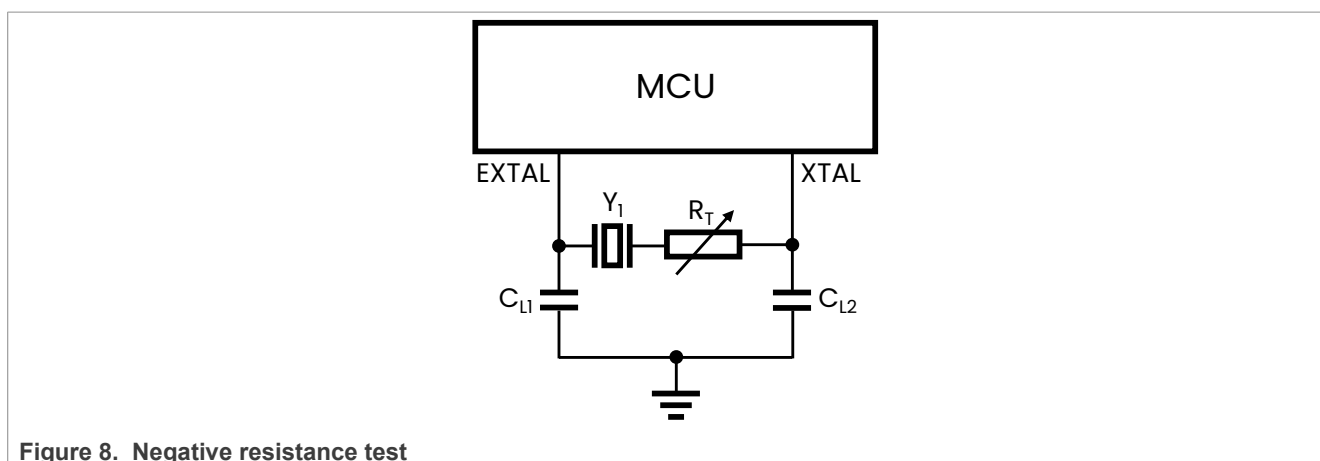

Figure 8. Negative resistance test
- Rework the board and connect a variable resistance R_T to the oscillation circuit, as shown in Figure 8.